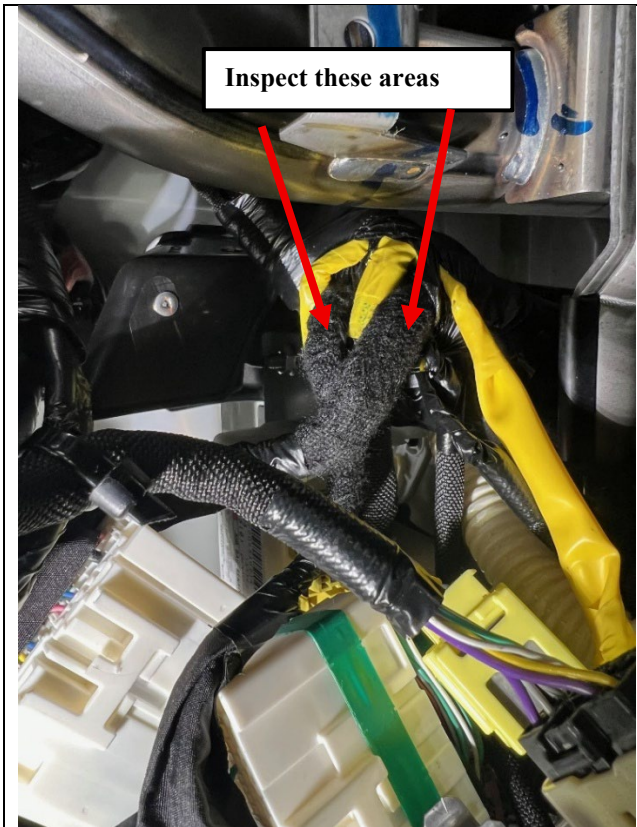

Figure 16
21. Inspect each black wiring harness going to H98 and H99 for signs of chafing. (See Figure 16.)